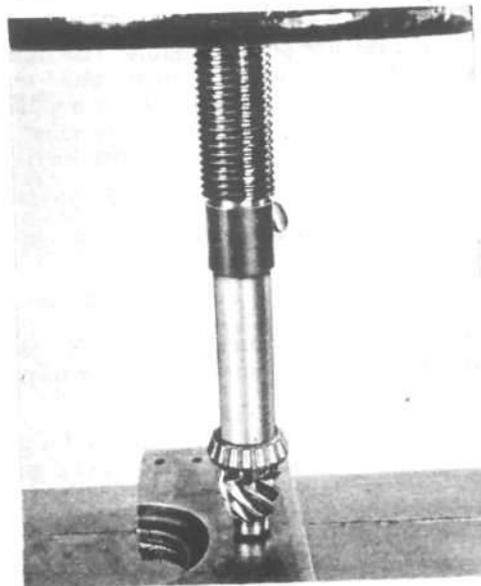

FIG. 275—PINION REAR BEARING INSTALLING SLEEVE
- c. Press rear pinion shaft bearing firmly against pinion shoulder. Use Tool No. W-205, Fig. 275.